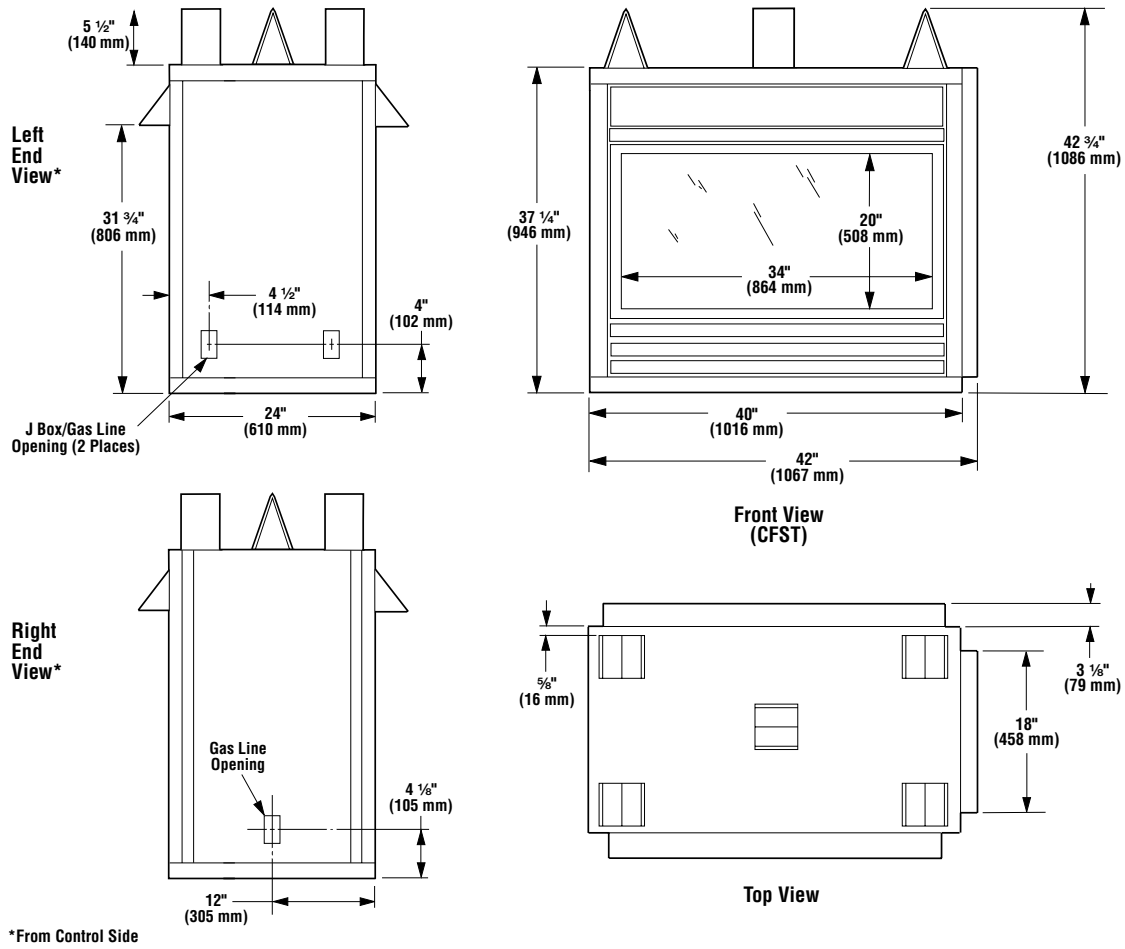

Figure 3
**Note:** Appliance Dimensional Specifications are shown in *Figure 3*.